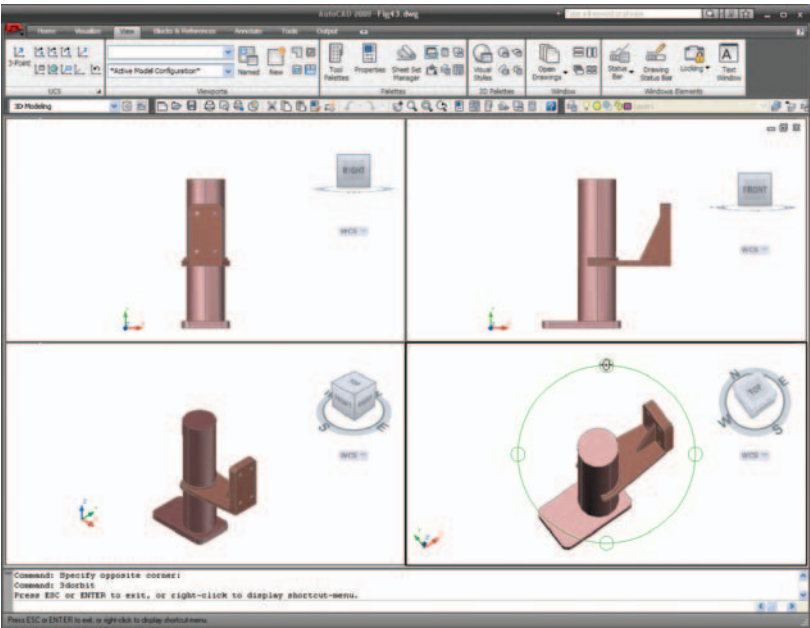

Fig. 15.43 Example – 3dorbit in a Four: Equal viewport layout
7. Fit the 3D model into a **Four: Equal** viewports setting. Note the **Realistic** visual style still shows in each of the four viewports and that the **3dorbit** tool can still be used as shown in the bottom-right-hand viewport (Fig. 15.43).